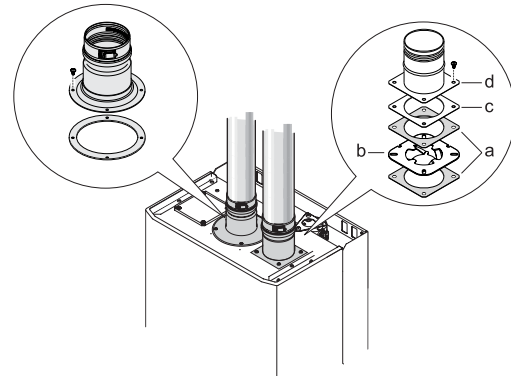

Fig. 15 Mounting sequence
Refer to Fig. 15 for mounting sequence.
- ▶ Place gasket, deflector, gasket and inlet air restrictor on the air inlet opening lining up screw holes as seen in Fig. 15.